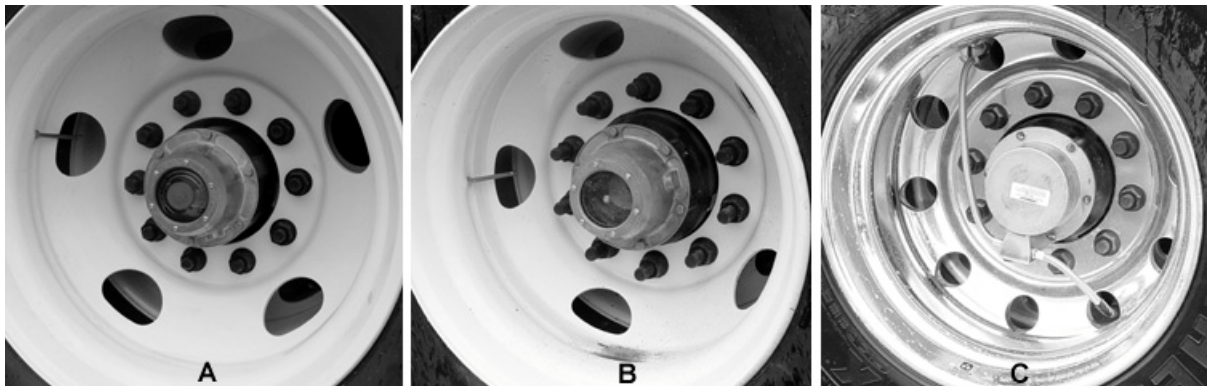

Figure 9-2 Wheel End Options
Your trailer may be equipped with oil bath (A), grease packed (B) or Hendrickson Long-Lift System™ (HLS™) (C) wheel ends. See figure 9-2.